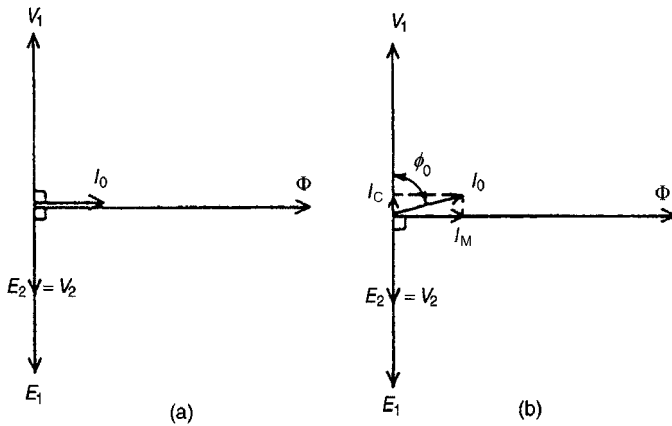

Figure 21.2
The core flux is common to both primary and secondary windings in a transformer and is thus taken as the reference phasor in a phasor diagram. On no-load the primary winding takes a small no-load current I_0 and since, with losses neglected, the primary winding is a pure inductor, this current lags the applied voltage V_1 by 90° . In the phasor diagram assuming no losses, shown in Fig. 21.2(a), current I_0 produces the flux and is drawn in phase with the flux. The primary induced e.m.f. E_1 is in phase opposition to V_1 (by Lenz's law) and is shown 180° out of phase with V_1 and equal in magnitude. The secondary induced e.m.f. is shown for a 2:1 turns ratio transformer.
A no-load phasor diagram for a practical transformer is shown in Fig. 21.2(b). If current flows then losses will occur. When losses are considered then the no-load current I_0 is the phasor sum of two components – (i) I_M , **the magnetising component**, in phase with the flux, and (ii) I_C , **the core loss component** (supplying the hysteresis and eddy current losses). From Fig. 21.2(b):
- (c) From the right-angled triangle in Fig. 21.2(b) and using Pythagoras' theorem, $I_0^2 = I_c^2 + I_M^2$ from which, magnetising current,